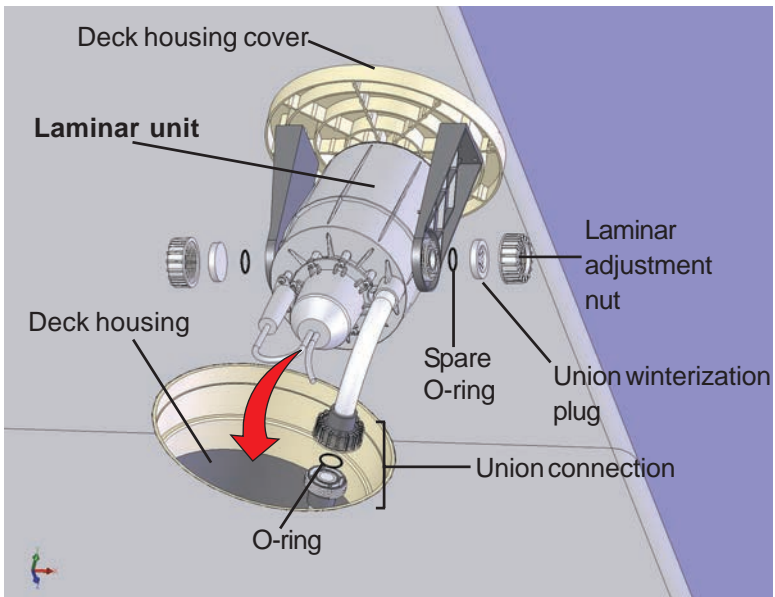

Figure 5.
2. Make sure the spare o-rings are in place. Place the union winterization plugs in the laminar adjustment nuts and screw them in place on the laminar body (Figure 5).
3. Connect the laminar to the supply pipe with the union connection (Figure 5). Make sure the o-ring stays in its groove.
5. Place the deck housing lid/laminar unit in the deck housing (Figure 5). If the hoses in the deck housing prevent the proper seating of the deck housing lid, you may have to loosen the union nut briefly and allow the hoses to twist, so that they spiral out of the way, into the deck housing.